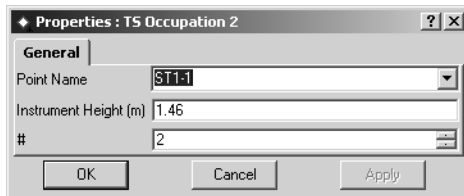

Figure 4-36. Properties
2. On the *Properties* dialog box, edit point name, instrument height, and point number as needed (Figure 4-36).